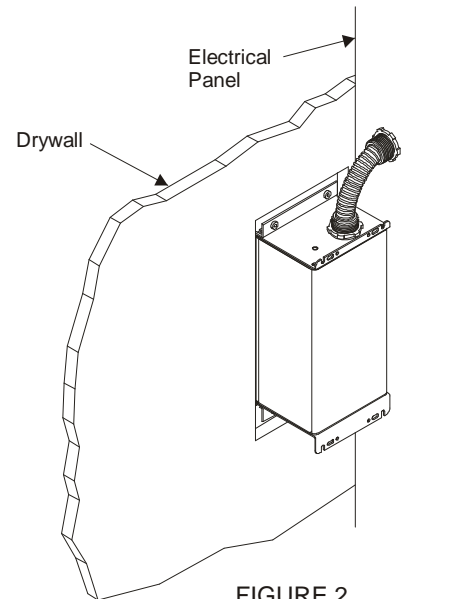

FIGURE 2
6. Insert TDX into drywall cutout and connect flexible conduit to electrical panel (Figure 2).